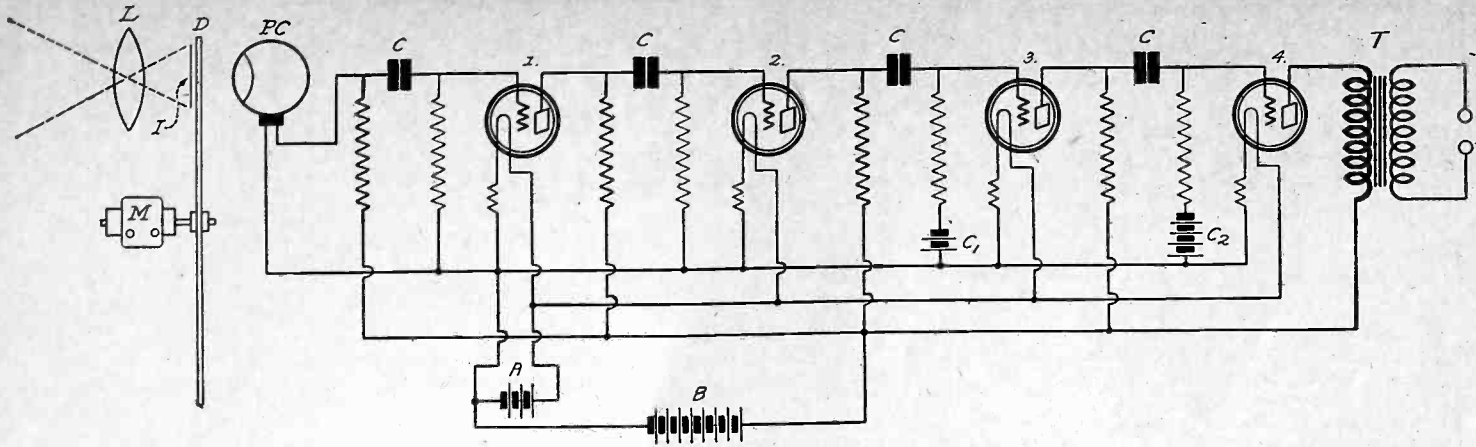

FIG. 706
(1)—See Fig. 706 for such an amplifier. It shows the connection of the photoelectric cell as well as the position of the scanning disc relative to the cell.